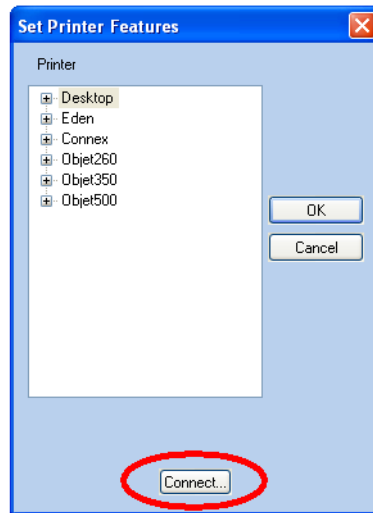

Figure 5-84: Connecting to a printer (A)
2. In the *Set Printer* dialog box, click *Connect* (see figure 5-84).